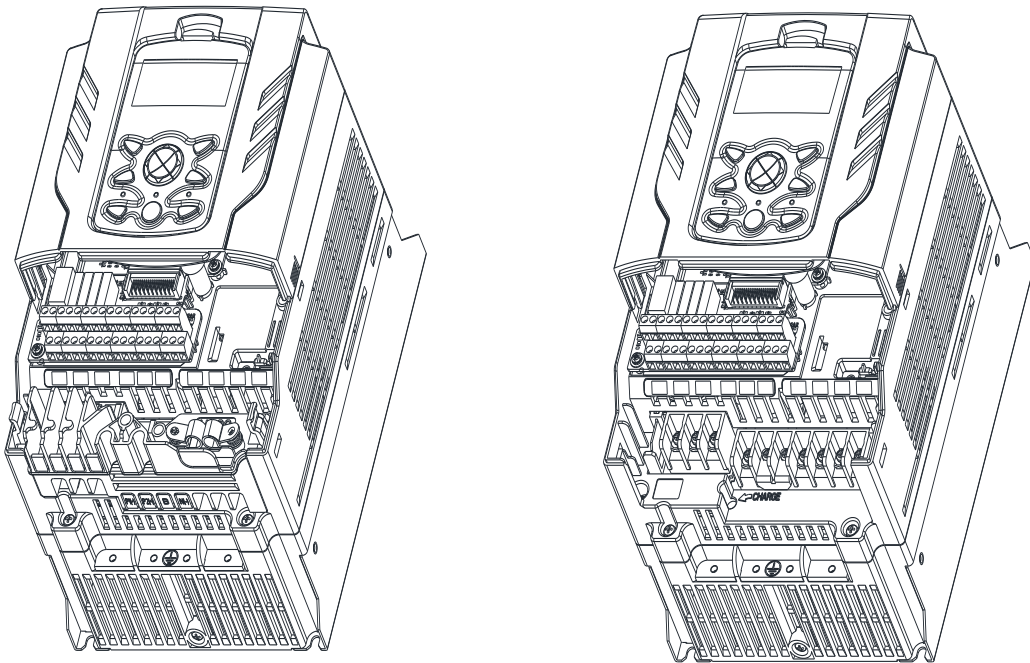

Figure 1. Remove Power Cover and CABLE Guide
- ① Remove the Power cover and cable guide of the product as shown in the Figure 1.